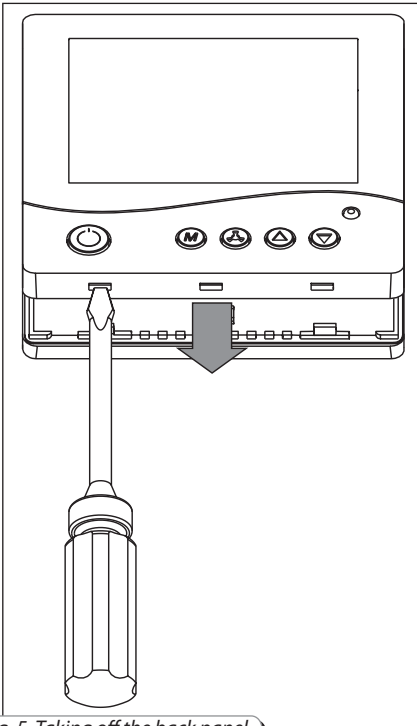

Fig. 5. Taking off the back panel.
- Use a screwdriver to lift the latches through the technological openings in the upper part of the wall-mounted control panel, fig. 5.